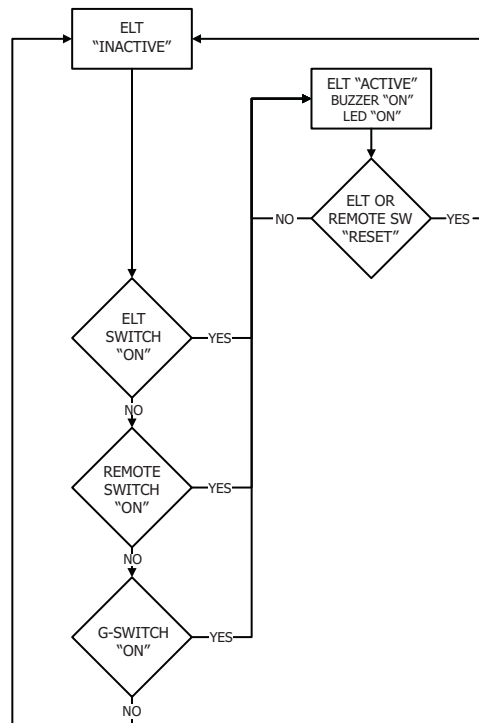

Figure 8. ELT Operational Flow Diagram
- (1) See "Figure 8. ELT Operational Flow Diagram".